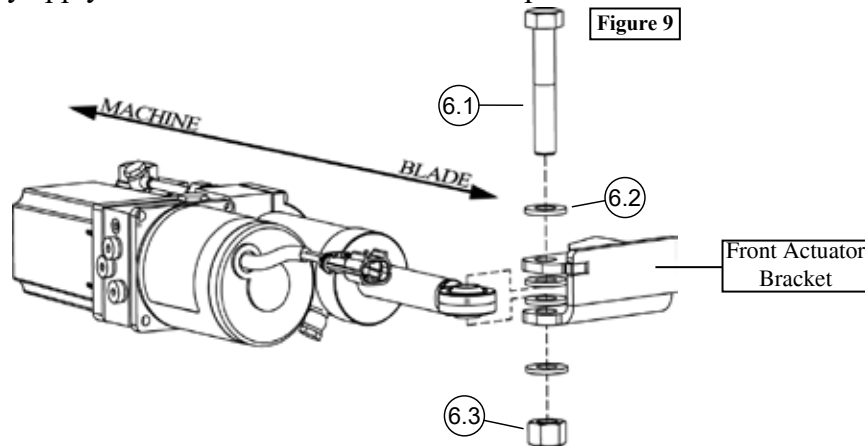
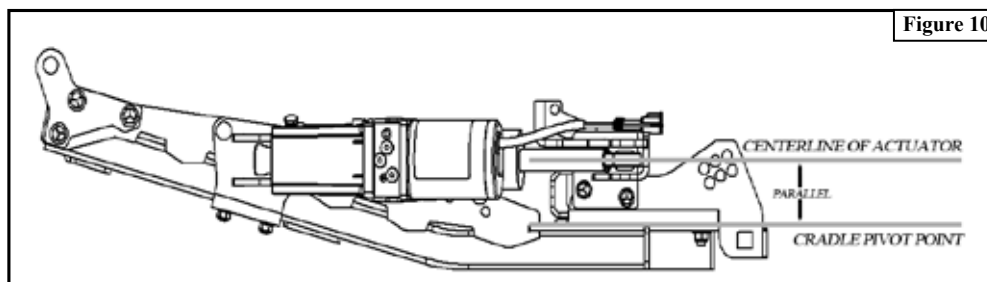

Figure 9
Figure 10
2. Repeat previous step for mounting the front half of the actuator, as shown in Figure 9. It is most important that you use the washers to make sure that the actuator is parallel to the cradle swivel point, as shown in Figure 10. Both front, and rear bolts should not be tight, thread the nut on until Nylock is engaged.